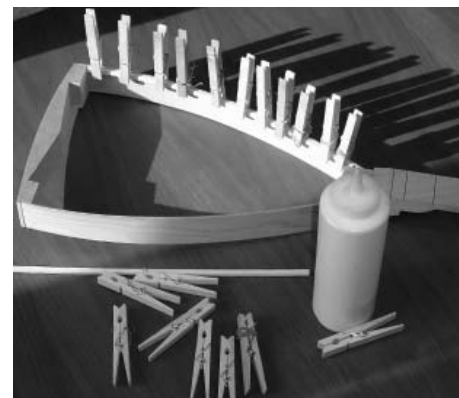

FIG. 13
- ___14. When the frame is dry, glue the 4 LINING STRIPS to the insides of the SIDES, as shown. Try to get the STRIPS to be flush with the edges of the SIDES. This gives you a wider glue surface for adhering the SOUNDBOARD and BACK panels later. Use clothespins (or other small clamps) to clamp the strips until the glue dries. (fig. 13)